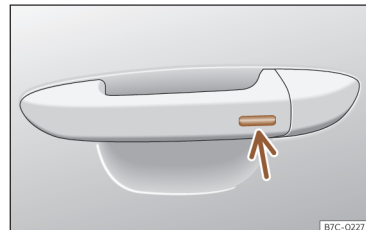

Fig. 62 Door handle: sensor surface.
- **OR:** using the Keyless Access system (only locking): Press and hold the locking sensor surface >>> Fig. 62 (arrow) on the door handle for several seconds to close the windows and the sunroof. If you release the sensor surface, the closing movement stops.
Press and hold the locking sensor surface >>> Fig. 62 (arrow) on the door handle to close the sunroof. If you release the sensor surface, the closing movement stops.